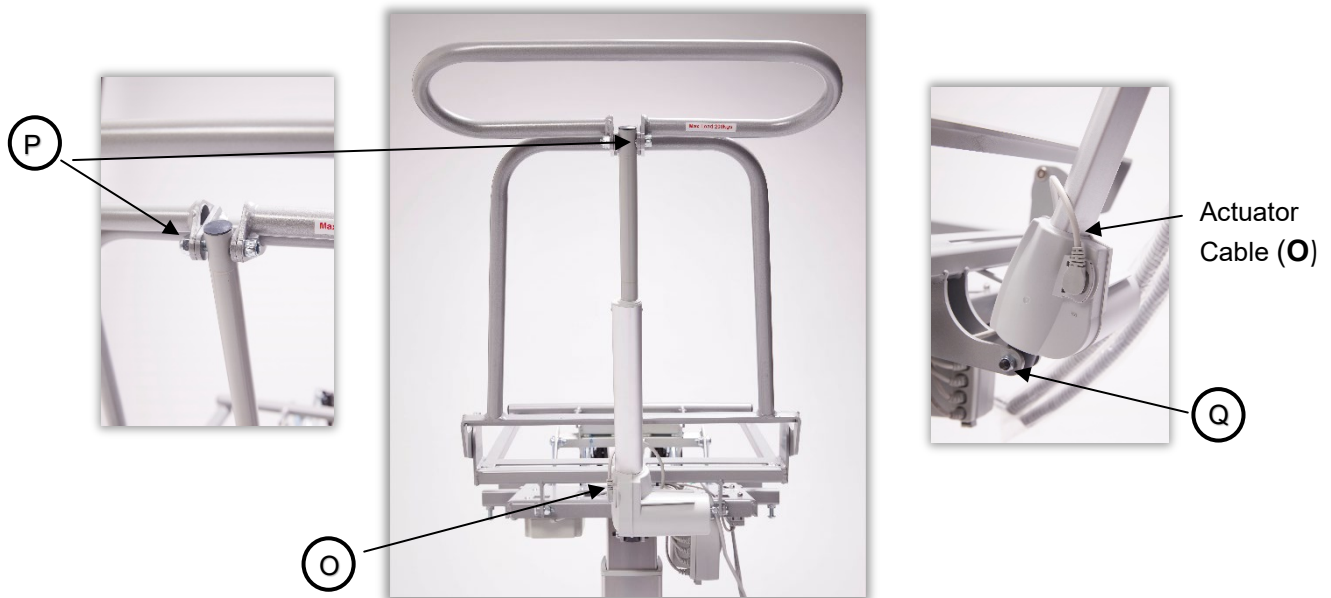

FIGURE 14. BACKREST ACTUATOR
3. Disconnect the actuator cable (O) (see **Figure 14 and Actuator cable**).
4. Undo and remove the two bolts (P) and (Q) located at each end of the actuator.